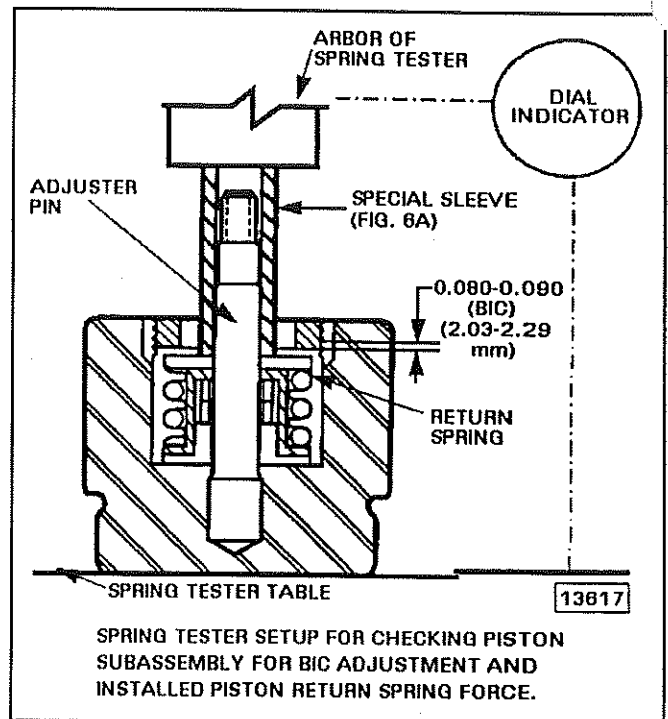

FIGURE 3 - SPRING TESTER SET-UP
4. Lower the spring tester, and compress the spring to the minimum height. The indicator pointer will stop moving. See Figure 3.